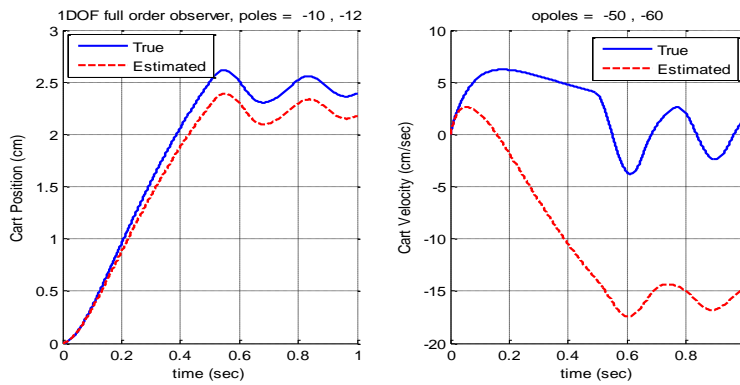

Figure 10: Full order observer for a model error for 1DOF system
- Now we will try and observe what happens when there is a difference between our model and the real system. Modify the observer subsystem in the model (**.mdl**) file, so the A matrix in the observer is called **AA**. Just before you run the model file, enter the command **AA=A*1.5;**. You should get results like those in Figure 10.